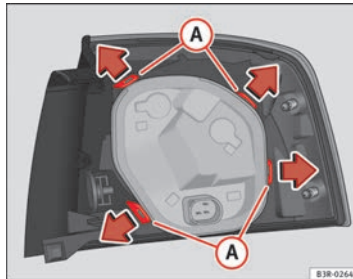

Fig. 225 Retaining tabs on reverse side of tail light
- Release the retaining tabs (A) ⇒ Fig. 225.
- Lift the bulb carrier off in direction of the arrow (B).